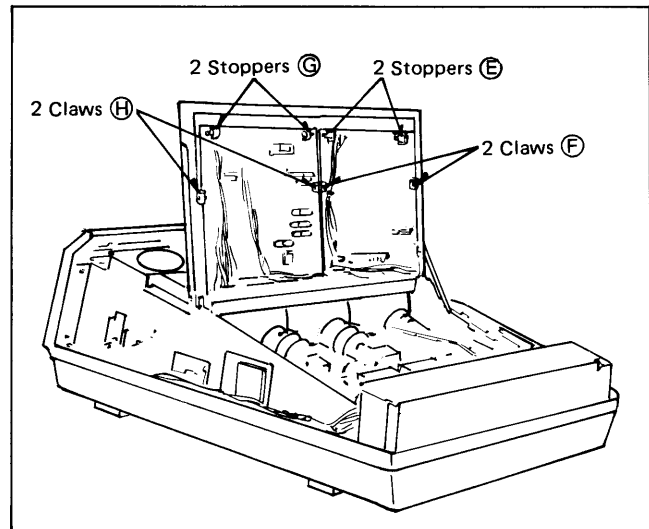

Fig. 6
- Remove 2 stoppers (E) and 2 claws (F) as shown in Fig. 6.
- Remove 2 stoppers (G) and 2 claws (H) as shown in Fig. 6.